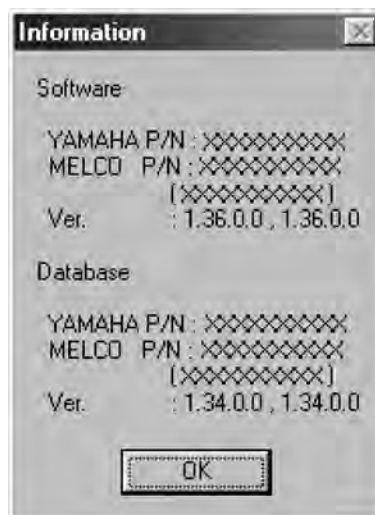

Fig. 16
- Display the program and database information to check version. (Fig. 16)